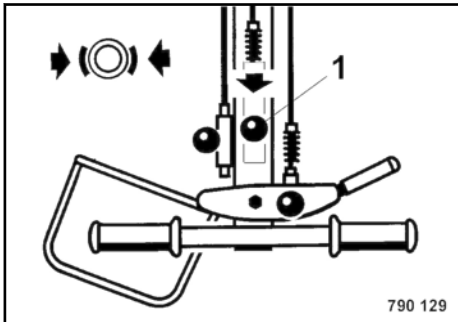

Fig. 26
Pull the parking brake lever (1) ↖ Fig. 26 back and engage it in position "Parking brake applied".